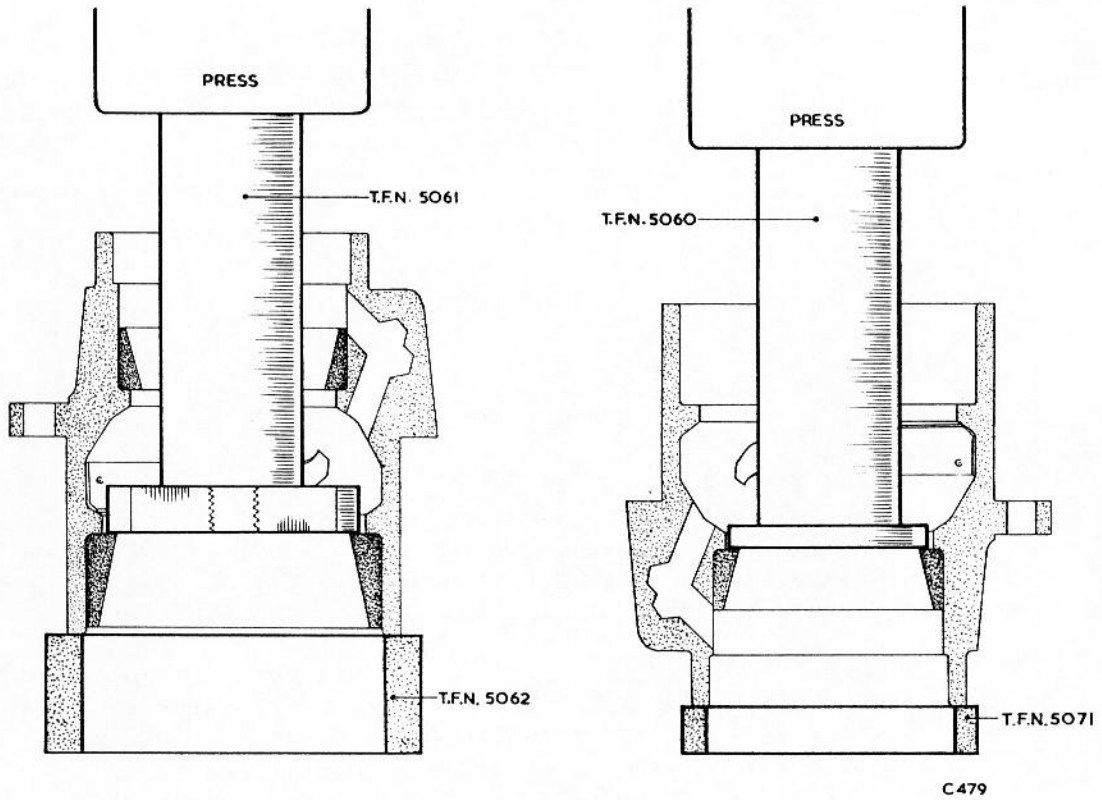

Fig. 13 Pressing bearing outer races from bearing housing.
2. Using the spigots TFN. 5060 and TFN. 5061 and the ring TFN. 5062 or TFN. 5071, press out the bearing outer races (larger race first) as shown in Fig. 13.